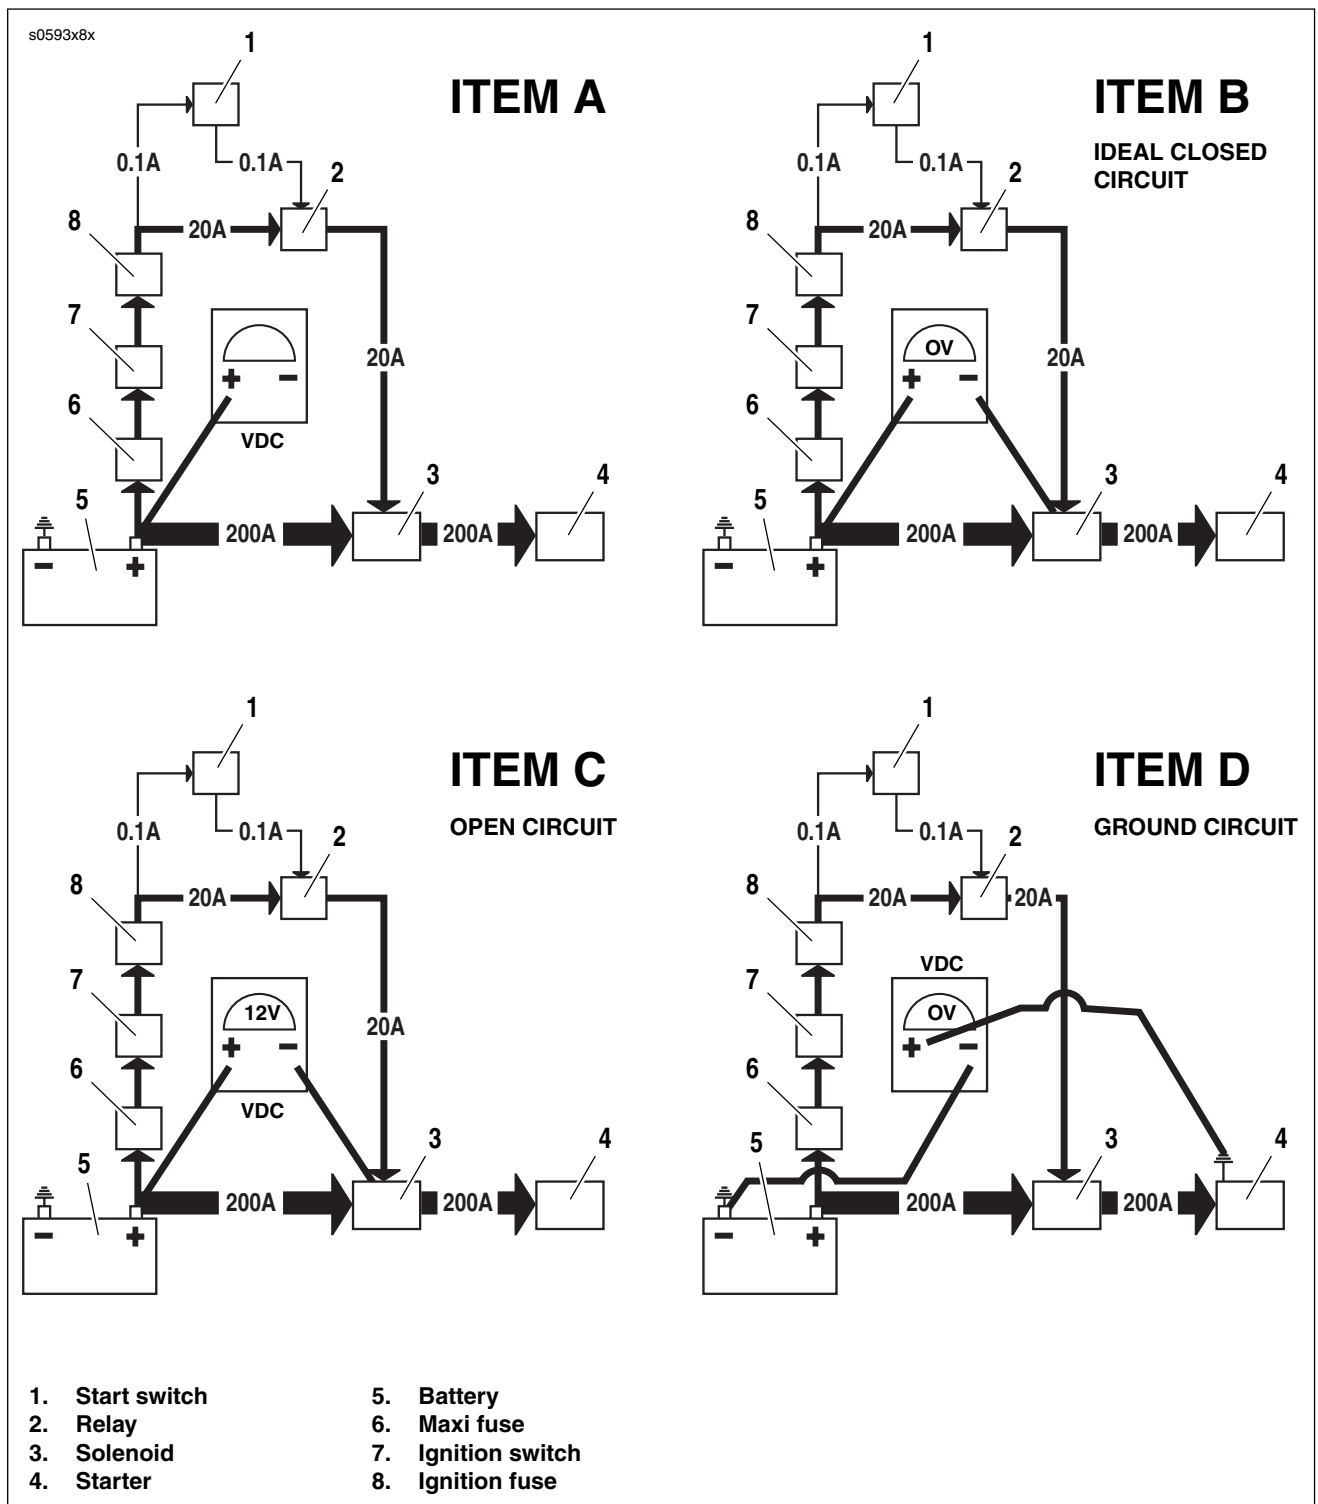

Figure 1-1. Typical Circuitry. Refer to wiring diagrams for more information.
1. See ITEM A in Figure 1-1. Attach your red meter lead to the most positive part of the circuit, which in this case would be the positive post of the battery.
2. See ITEM B in Figure 1-1. Attach the black meter lead to the final destination or component in the circuit (solenoid terminal from relay).
5. See ITEM C in Figure 1-1. An open circuit should read 12 volts, displaying all the voltage dropped, and the entire difference in potential displayed on the meter.
8. See ITEM D in Figure 1-1. The negative or ground circuit can be checked as well.